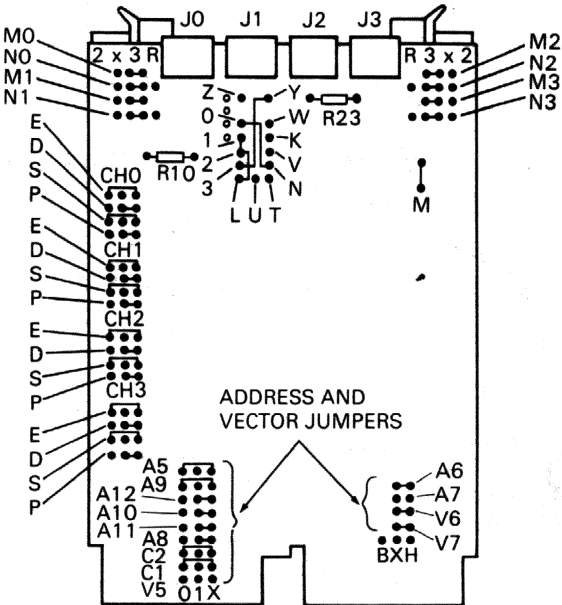

Figure 21 Jumper Locations
4. Check new PCB for jumper and switch position (see Figure 21)